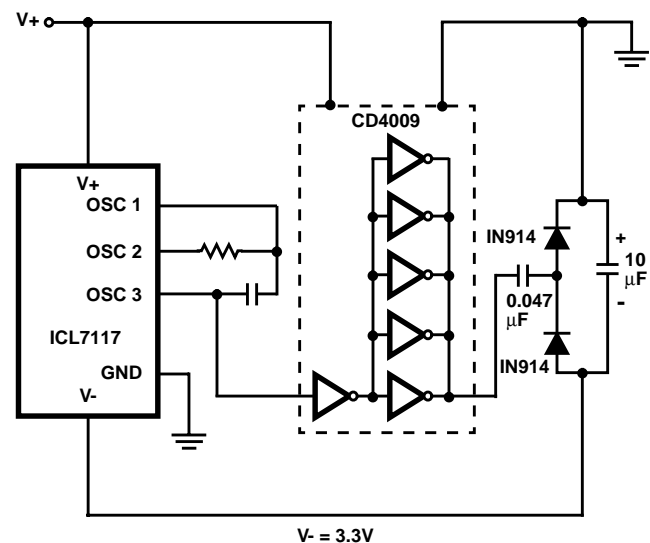

FIGURE 10. GENERATING NEGATIVE SUPPLY FROM +5V
- The ICL7117 is designed to work from \pm 5V supplies. However, if a negative supply is not available, it can be generated from the clock output with 2 diodes, 2 capacitors, and an inexpensive IC. Figure 10 shows this application. See ICL7660 data sheet for an alternative.